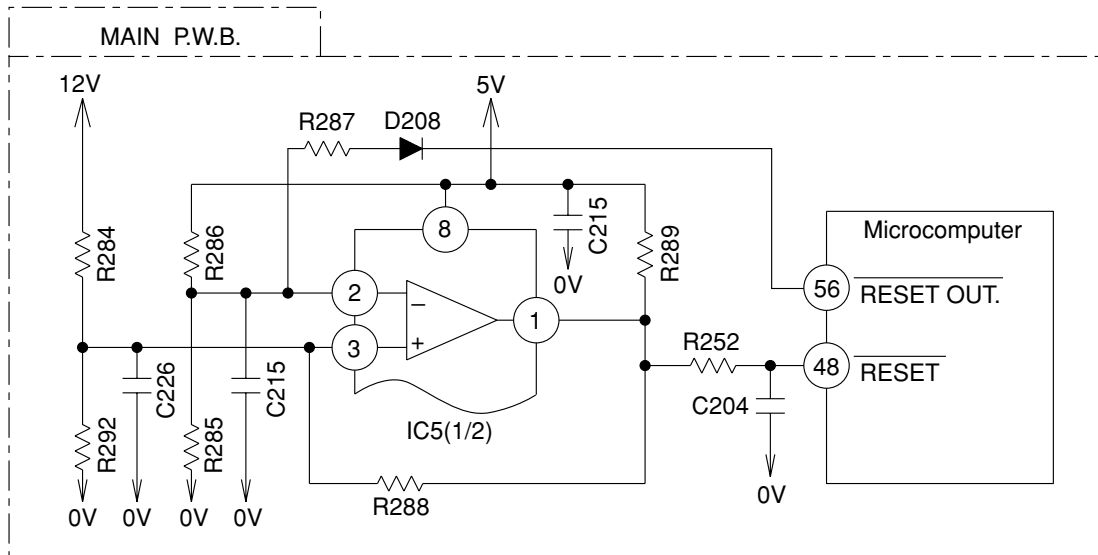
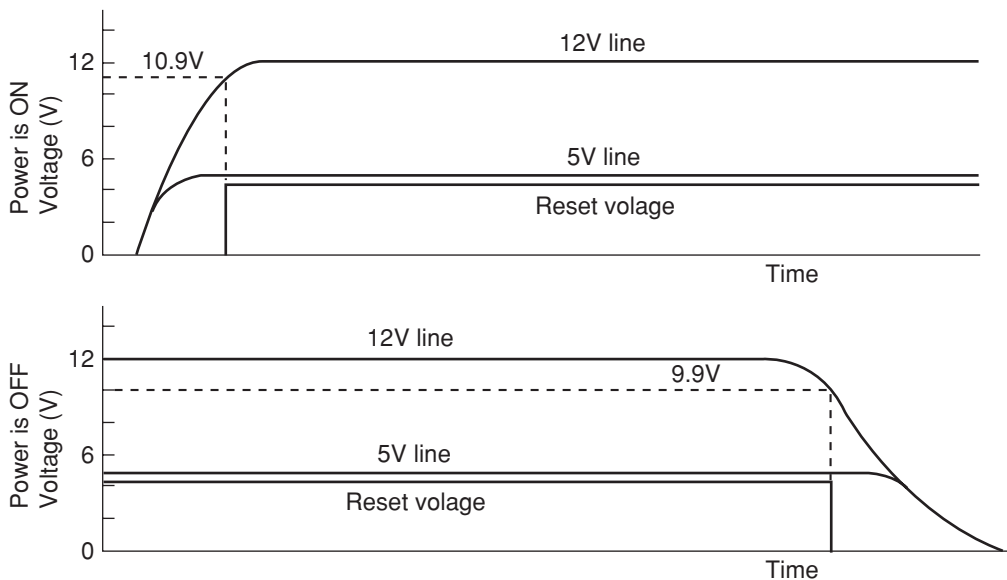

Fig. 6-7
Fig. 6-8
The reset circuit initializes the microcomputer program when Power is “ON” from “OFF”. Low voltage at pin ④⑧ resets the microcomputer, and HI activates the microcomputer. Fig. 6-7 shows the reset circuit and Fig. 6-8 shows waveform at each point when power is turned on and off.